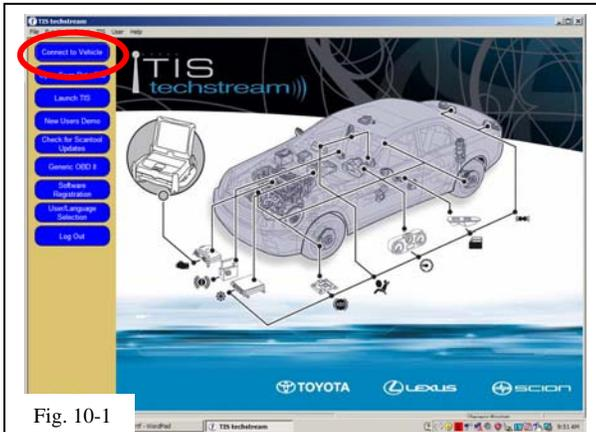

Fig. 10-1
- (a) Connect the Techstream to DLC3, as in Fig. 10-1.
- (d) Click “**Connect to Vehicle**” button. (Fig. 10-1)